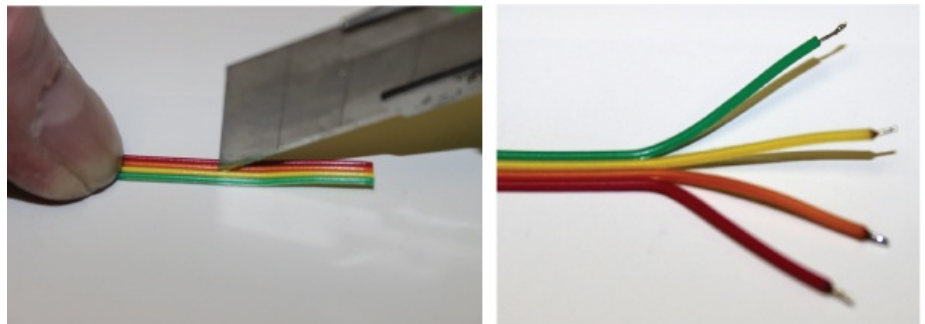

fig 5
3) (fig 5) By inserting the tip of the X-Acto into the space between the colored wires and gently pulling the ribbon wire away from the knife you can separate the wires as shown.